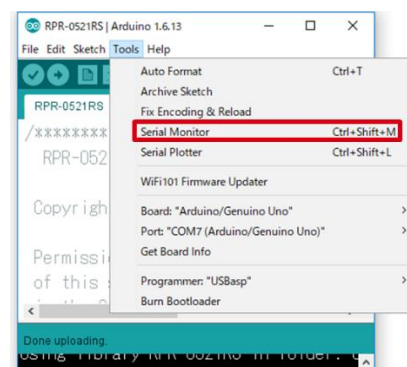

Figure 5. Tools Setting
4. Select [Tools]->[Serial Monitor] (Figure 5)